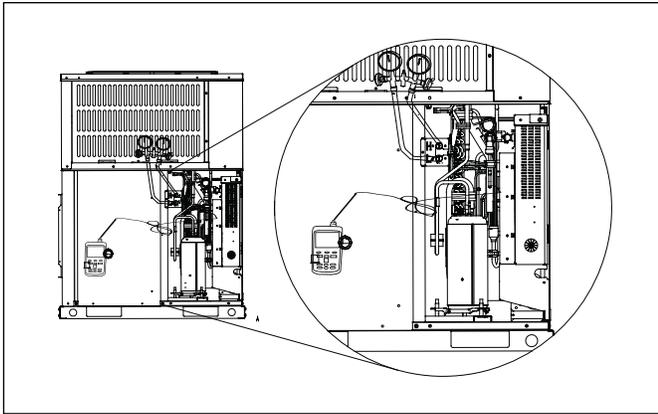

Figure 32
- Connect gauges to refrigerant bottle and unit as illustrated (Figure 32 and 33).